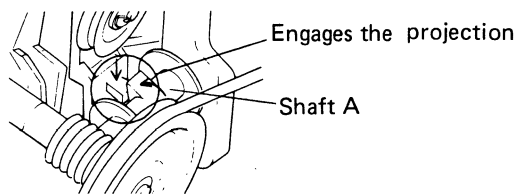

Fig. 5-5 Auto-stop Operation 2
6. The projection on shaft A engages the projection on plate A, and plate A is pushed down. (see Fig. 5-5).